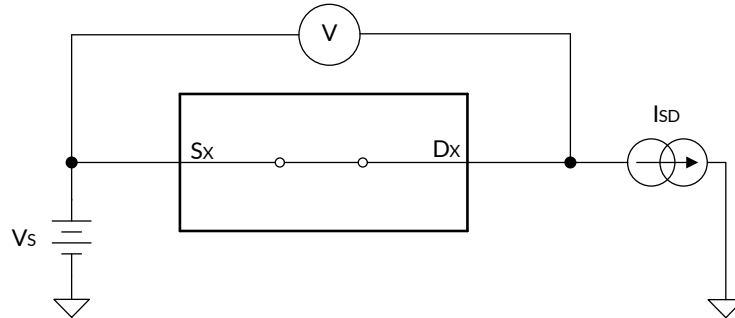

Figure 11. On-Resistance Measurement Setup
The on-resistance of a device is the ohmic resistance between the source (S_x) and drain (D_x) pins of the device. The on-resistance varies with input voltage and supply voltage. The symbol R_{ON} is used to denote on-resistance. The measurement setup used to measure R_{ON} is shown below. Voltage (V) and current (I_{SD}) are measured using this setup, and R_{ON} is computed as shown in Figure 11 with $R_{ON} = V / I_{SD}$: